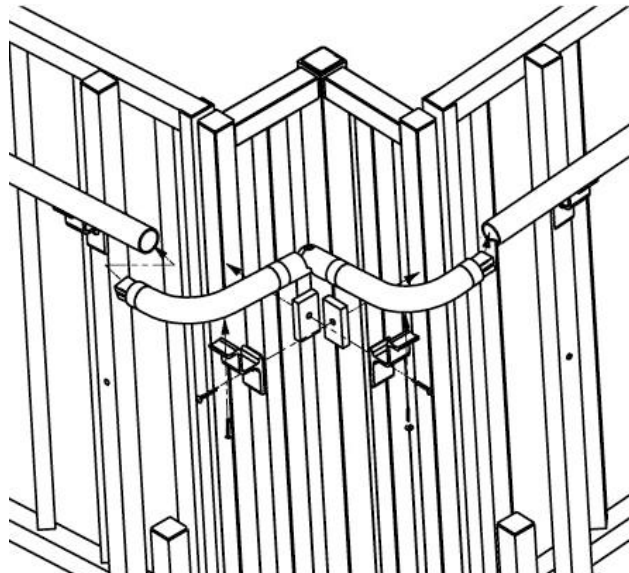

FIG. 46
- 8.7.4 Attach handrail brackets and spacers to guard post using one 5/16" x 1-1/2" self drilling square drive screw per bracket to secure (FIG. 46).